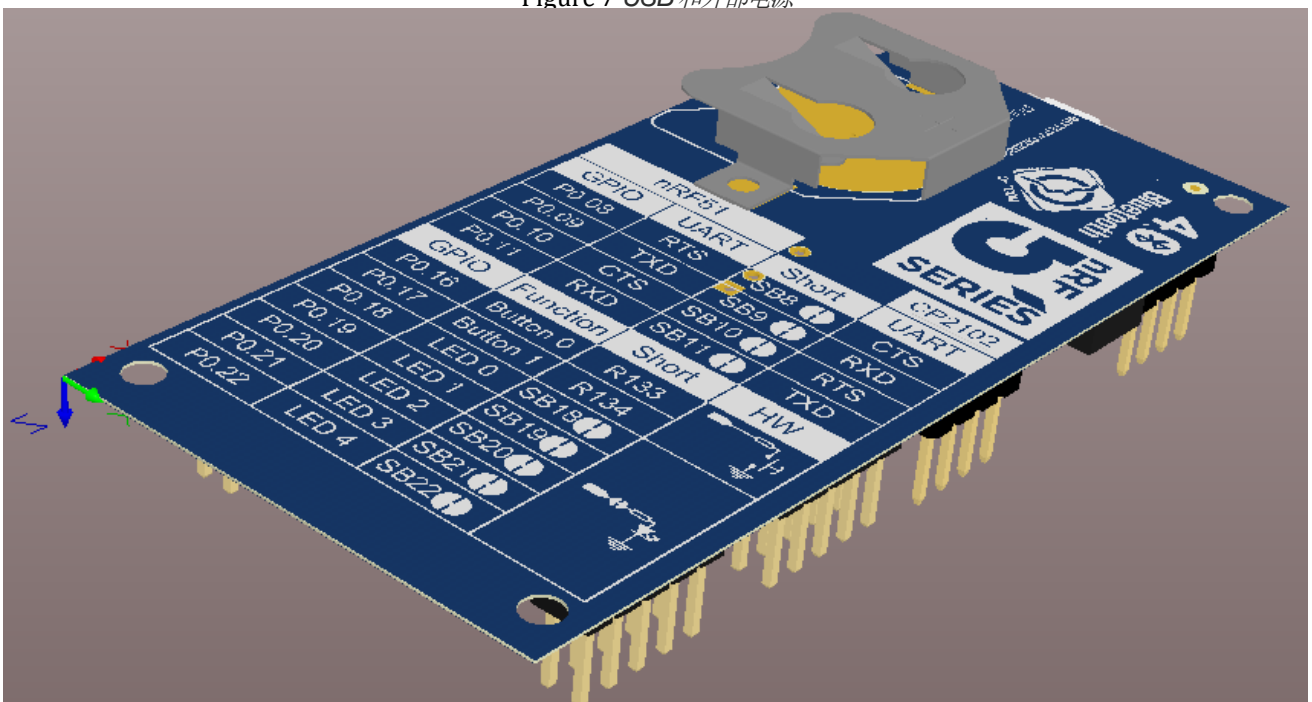

Figure 8 CR2032 纽扣电池
- CR2032 coin cell battery (请看 **Figure 8**)